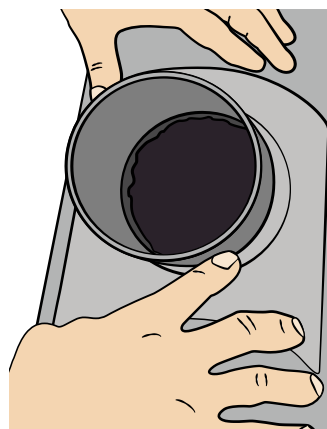

FIG. 19d
- Lay the Saddle Tap Wye onto the pipe and align the branch with the hole that you cut. If it's not aligned the airflow efficiency will significantly decrease at the branch [FIG. 19d].